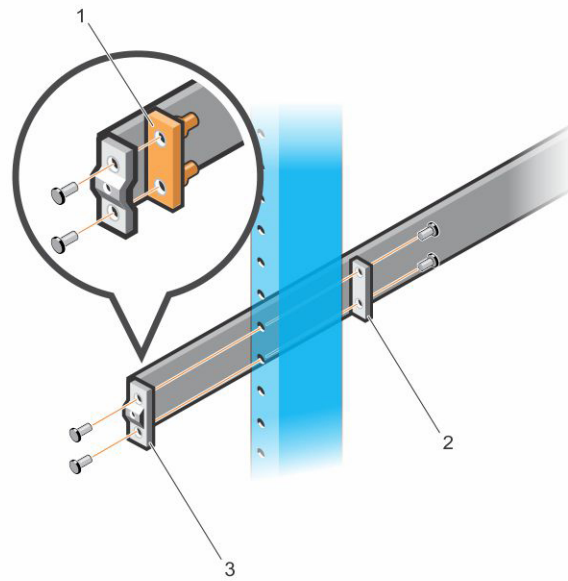

Figure 15. 2-Post Flush-Mount Configuration
1. For this configuration, remove the castings from the front side of each ReadyRails assembly. See item 1 in Figure 15. Use a Torx driver to remove the two screws from each front flange ear (on the switch side of the rail) and remove each casting. Retain the castings for future rack requirements. You need not remove the rear flange castings.
2. Attach one rail to the front post flange with two user-supplied screws. See item 2.
3. Slide the plunger bracket forward against the vertical post and secure the plunger bracket to the post flange with two user-supplied screws. See item 3.